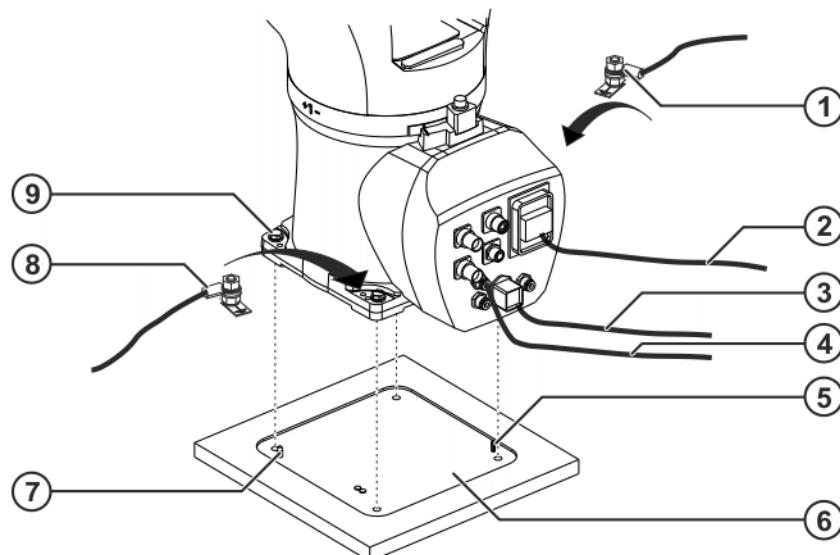

Fig. 8-2: Installing a floor-mounted robot
2. Check that the locating pins are undamaged and fitted securely (>>> Fig. 8-2).